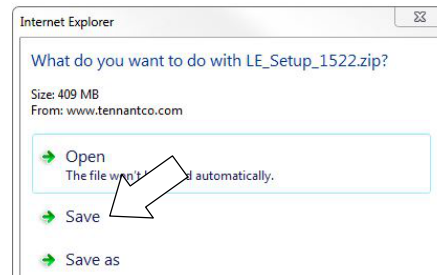

Fig. 19
3. Within the Service Application Software page, click on the link titled “Service Diagnostics LE version x.x.xx” to download the application installer then click the Save button (Figure 19).